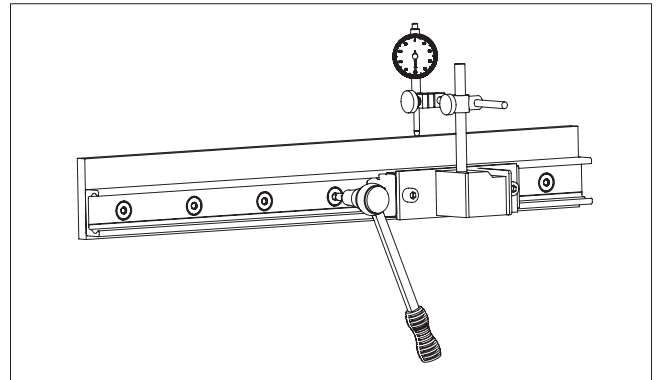

Fig.65
- (2) Install a dial indicator so that the offset of the rail to a reference line can be measured. Now position the slider in the center of the rail and set the dial indicator to zero. Move the slider back and forth between each two hole spacings and carefully align the rail. Fasten the three center screws of this area now with the the specified tightening torque, see Fig.65 (Tightening torque on Tab.43).
- (3) Now position the slider on one end of the rail and carefully align the rail to zero on the dial indicator.